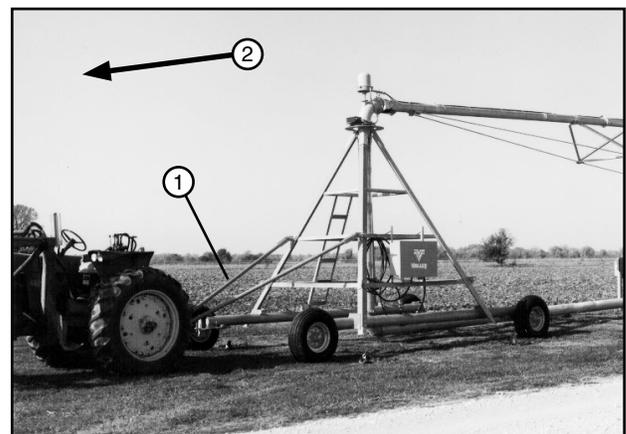

Figure 41-3 1. Tongue
5. If necessary, move the tongue to the side of pivot that faces the towing direction. See figure 41-3.